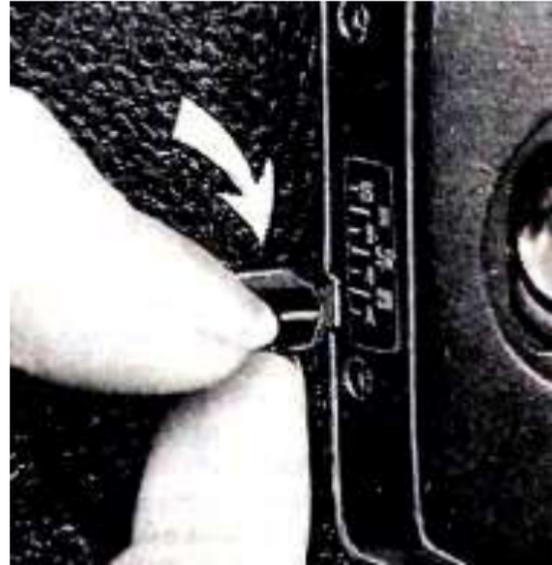

Fig. 13.
Put key 9 (Fig. 2) against the calculated diaphragm value as is shown in Fig. 13, and bring key 8 (Fig. 2) to a corresponding position with respect to distance scale as is shown in Fig. 11. The camera is ready for taking.